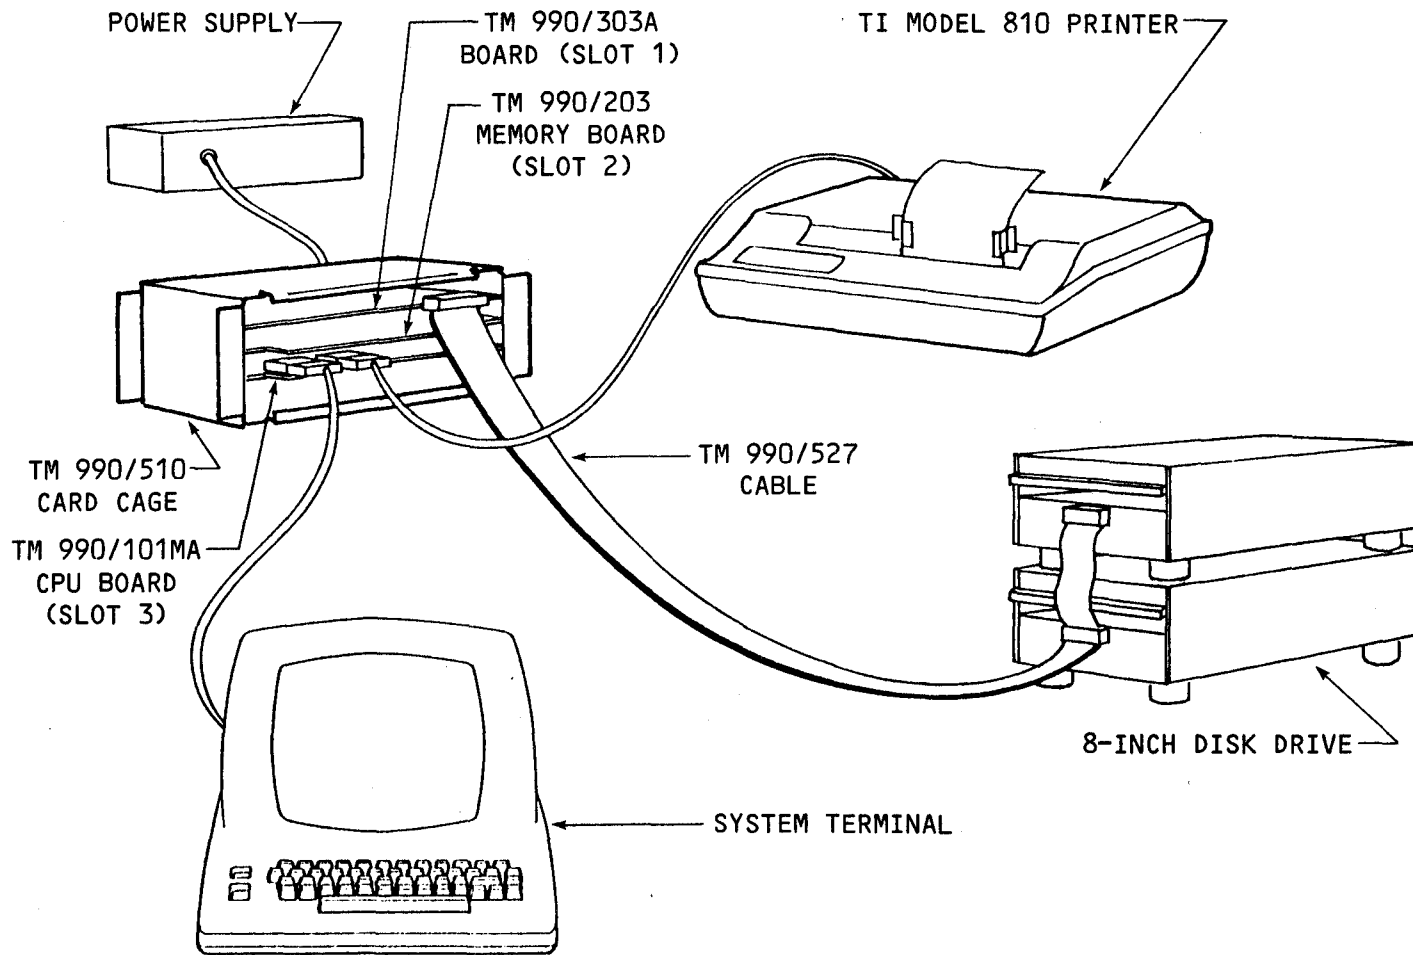
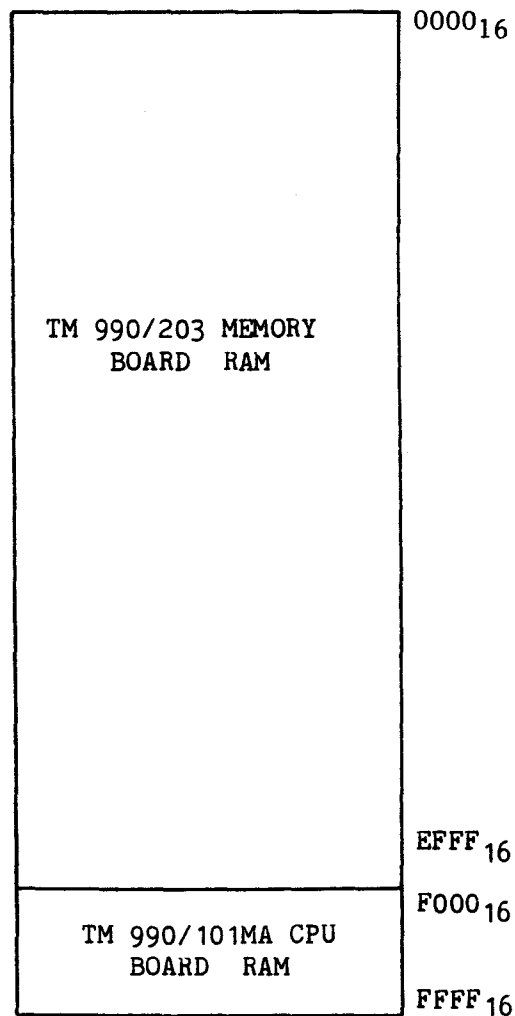

FIGURE 1-1. TM 990/601 SYSTEM CONFIGURATION
FIGURE 1-3. SYSTEM MEMORY (RAM) CONFIGURATION
Figure 1-3 shows the as-shipped system random-access memory (RAM) configuration. Note the partitioning on both the TM 990/101MA microcomputer and the TM 990/203 dynamic RAM expansion board.
This section explains how to correctly install the TM 990/601 and TM 990/602 kits. Both come ready to be interconnected with user-provided peripherals. In addition, the TM 990/601 requires a user-provided power supply. Boards in both systems have been configured for hookup as shown in the figures in Section 1 (connection in Figure 1-1 or 1-2 and memory map as shown in Figure 1-3).
- 6) Before reinserting the boards, wipe the edge connectors with alcohol to clean them. (This insures a good electrical connection.) With the power supply connected correctly and the power turned off, reinsert the three TM 990 modules into the chassis verifying that they are in the correct slot as shown in Figure 1-1 (TM 990/303A in slot 1; TM 990/203 in slot 2; TM 990/101MA in slot 3). The boards should snap into the backplane connectors.